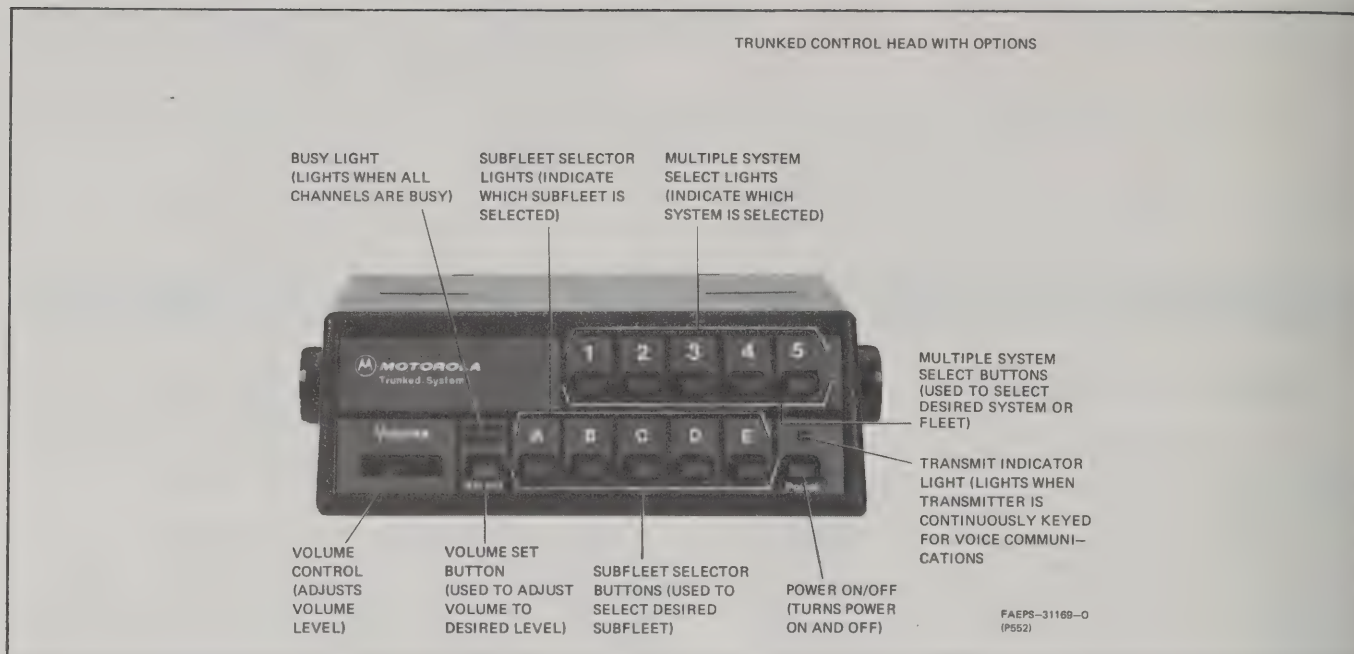

Figure 1. Trunked SYNTOR X Control Head with Multiple System Select Option W305AD and Five Subfleet Select and Volume Set Options
Figure 1 shows a trunked control head with the volume set and five subfleet option in addition to the W305AD multiple system select option. With this combination, an operator may select any one of up to five subfleets or five fleet/subfleet combinations in any one of five systems.
The multiple system select board mounts inside the control head housing. The five system select pushbuttons and associated indicator lights mount at the top front of the control head as shown in Figure 1.
2. OPERATING PROCEDURE (Refer to Figure 1.)